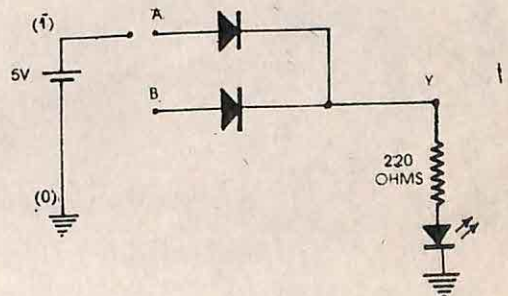

Fig. 20.2
An OR-gate can be built by two diodes as shown in the Fig. 20.2. If both inputs are low, the output is low. If either input is high, the diode with the high input conducts and the output is high. BOOLEAN EQUATION for OR-operation is —
1. Make the connection in the bread board as shown in Fig. 20.2.
2. Connect A & B to (0), note the state of LED.
3. Then connect A to (1) and B to (0) see whether LED glows or not.
4. Connect A to (0) and B to (1). Record your observation.
5. Connect A and B to (1). Record your observation.